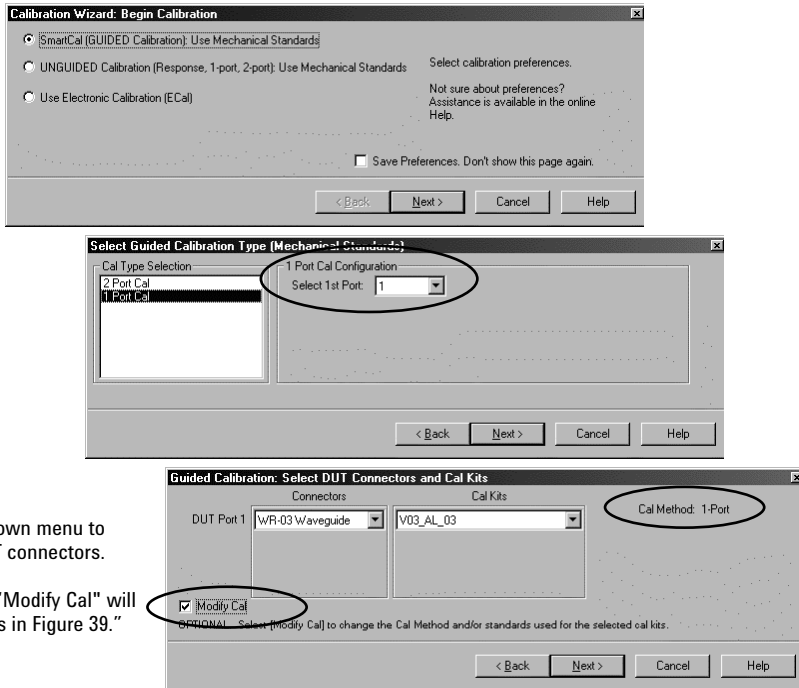
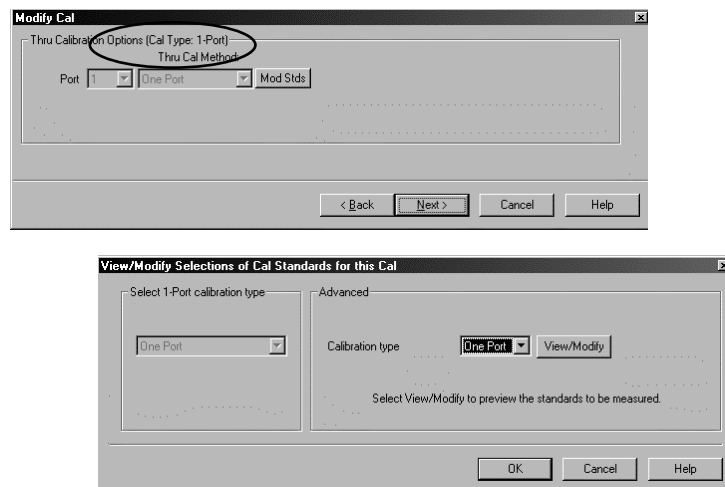

Figure 39. Select SmartCal and DUT connectors.
Figure 40. Viewing *Modify Cal* displays.
2. Select **SmartCal (GUIDED Calibration)**, then click **Next>** (Figure 39, top)
3. Select **Cal Type**. Notice on the right that you can choose either Port 1 or Port 2 as the test port for the 1-port calibration. Then, click **Next>** (Figure 39, middle)
4. Use dropdown menu and then the scroll bar to select the DUT connectors (Figure 39, bottom). Also, use dropdown menu to select the available calibration kit based on the selected DUT connectors. Notice, the *Cal Method* here is simply *1-Port*. Plus, if "Modify Cal" is not selected, then steps shown in Figure 40 will be skipped. Click **Next>**
5. Having selected "Modify Cal" allows you to look at the screens shown in Figure 40. However, in the case of 1-port calibrations, you are limited to SOL calibration only. Thus, clicking on "Modify Cal" does not offer you additional selection. Your *Cal Type* remains as *One Port*.